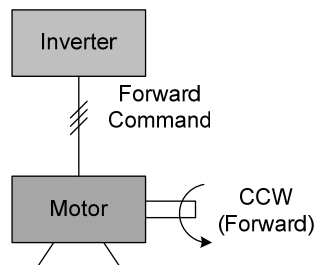

Figure 4.3.119 Motor operation direction
- Forward: The motor operation is used for the inverter with special (counter-clockwise) direction to perform forward command. Refer to the below figure 4.3.119.